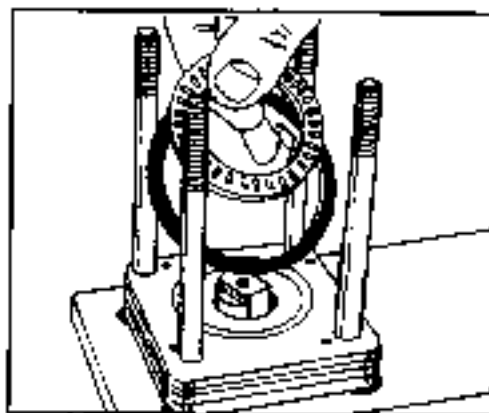

FIGURE 33.
remove thrust bearing and spacer 40. Remove thrust bearing (28) and bearing spacer (27) from upper cover plate (32). See figure 33.
inspect bearing and spacers 41. Inspect the thrust bearing (28) for brinelling (dents) or spalling (flaking); if either exists, or if one or more of the rolls are lost or broken, replace the bearing assembly. See figure 33. Replace seal spacer (31) or bearing spacer (27) if worn or broken.